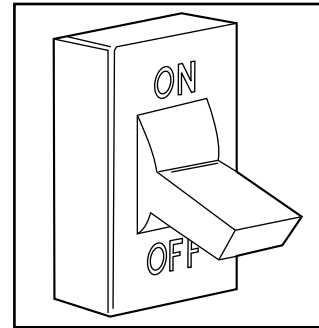

Fig. 20 - Turn Off Electrical Supply
1. Turn off electrical supply to the furnace. See Fig. 20.